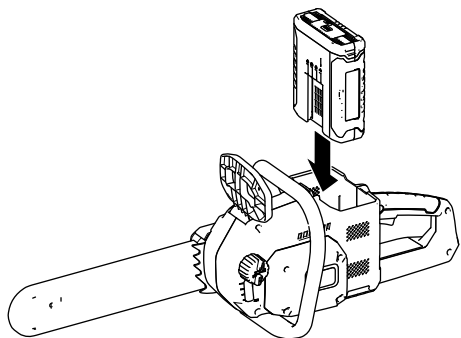

Figure 8
- Align the tongue of the battery pack with the battery cavity in the chain saw (Figure 8).